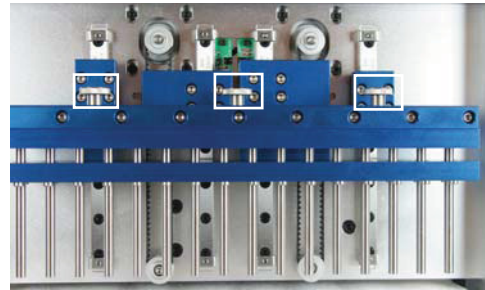

Figure 34. SEV Magnetic Rod Assembly and thumbscrews.
4. Unscrew the three thumbscrews (boxes in Figure 34) on top of the Magnetic Rod Assembly.